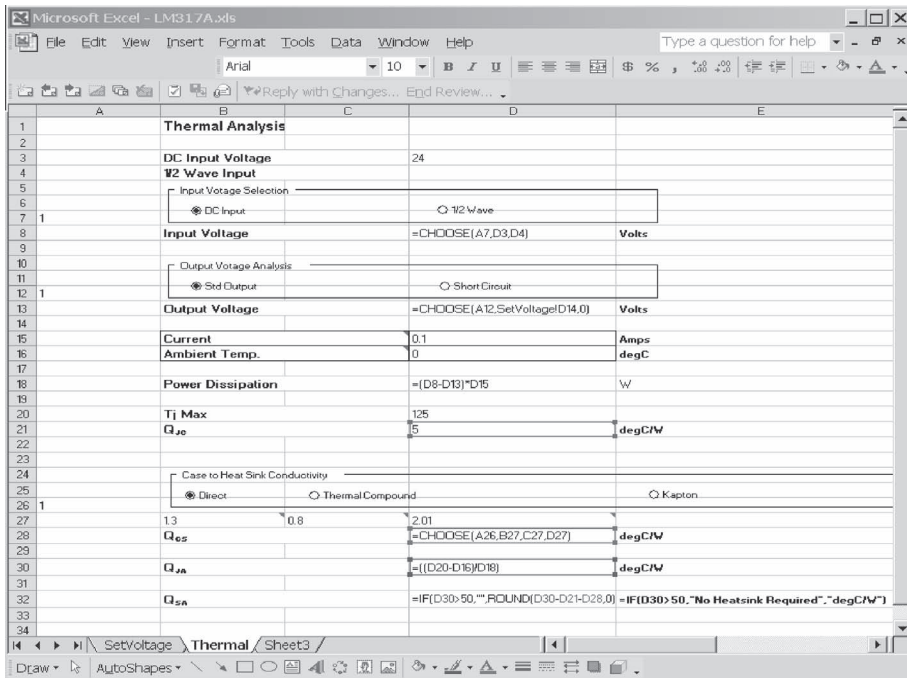

Figure 10-17: Formulas needed to calculate the thermal conductivity for a heat sink.
Figure 10-17 shows the formulas used in the calculations. The user is expected to enter the current through the device in cell D15 and the maximum ambient temperature in cell D16. The power dissipation in the device is found using equation (3), as previously shown.